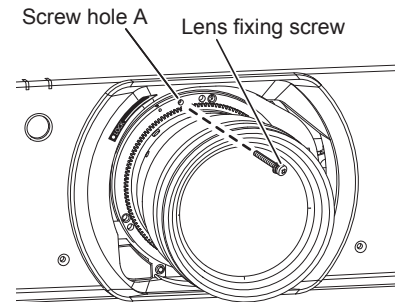

Fig. 2
- 2) **Secure the projection lens with the lens fixing screw supplied. (Fig. 2)**